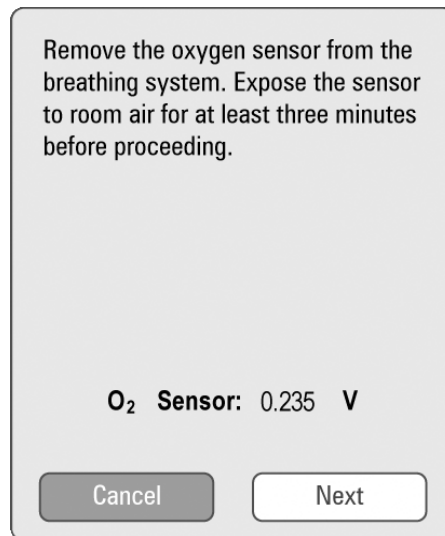
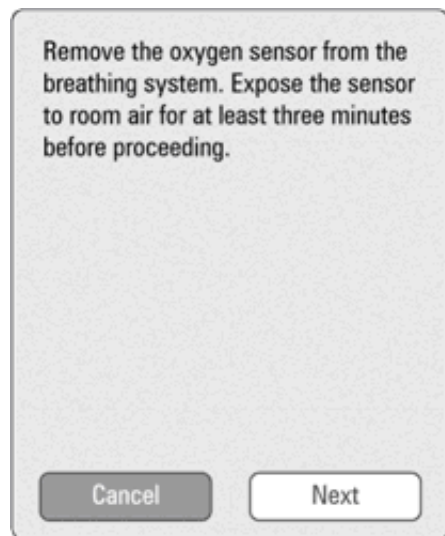

FIGURE 2-14 Oxygen Sensor Calibration Instructions
FIGURE 2-16 Oxygen Sensor Calibration Instructions (UI versions 2.24 and lower)
- c. After the **Start Calibration** button has been selected, the screen shown in FIGURE 2-14 or FIGURE 2-16 will be displayed, instructing the user to remove the oxygen sensor from the Breathing System and expose it to room air for at least 3 minutes before proceeding. The O₂ sensor voltage is displayed during the calibration. This is the amplified O₂ cell voltage at the A/D converter for the oxygen sensor.